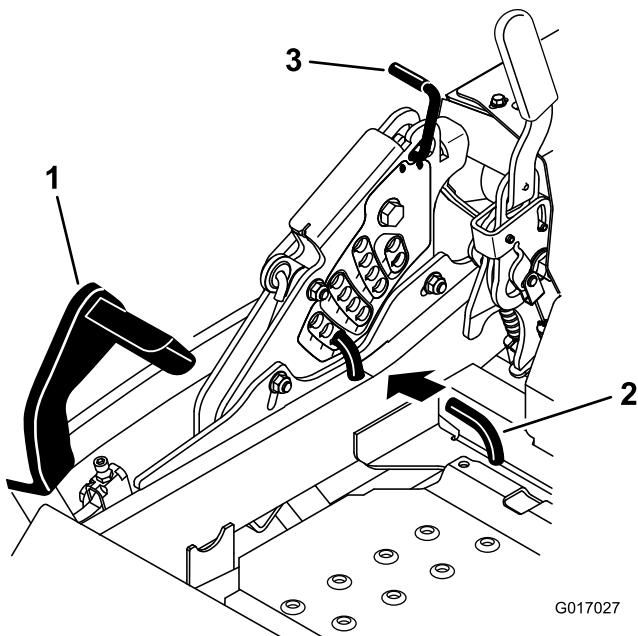

Figure 88
5. Push the deck-lift pedal all the way forward and the deck will latch at the 14 cm (5-1/2 inches) transport position (Figure 88).